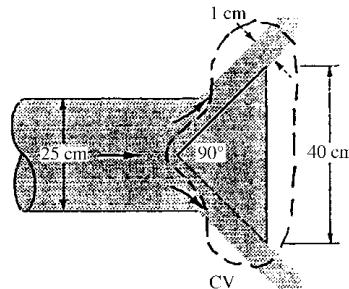

Fig. P3.84
**3.84** Air at  $20^\circ\text{C}$  and 1 atm flows in a 25-cm-diameter duct at  $15 \text{ m/s}$ , as in Fig. P3.84. The exit is choked by a  $90^\circ$  cone, as shown. Estimate the force of the airflow on the cone.